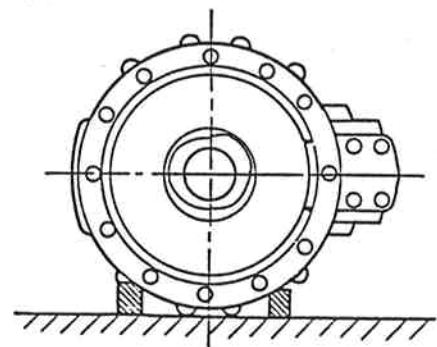

Fig.8 Placing Subassembly
- 5) Insert tilting pistons (32), tilting springs (37) and tilting stoppers (34 and 35) into casing (15) being careful not to mix up stopper F (34) and stopper R (35). Install piston covers (36) on casing (15) with capscrews (38).
- 6) Place the subassembly assembled in step 5 as shown in Figure 8.